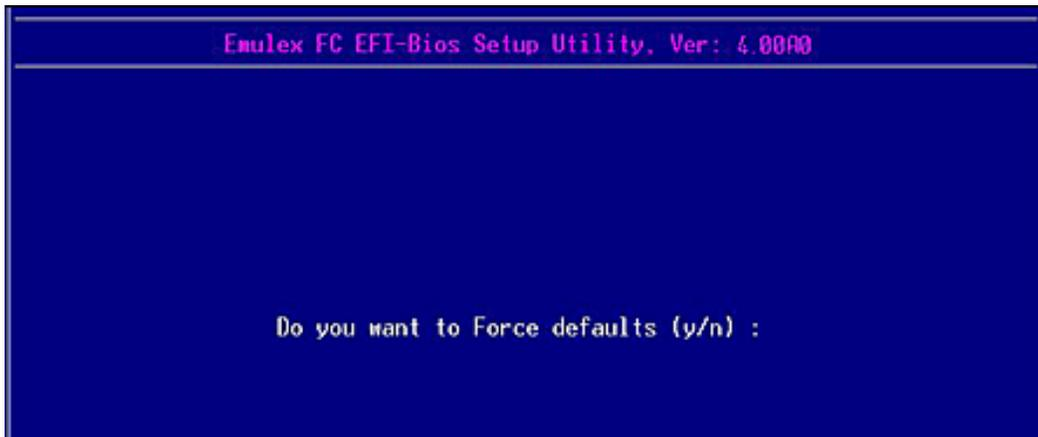

Figure 49: Force Defaults Dialog screen
1. From the EFI-BIOS Setup Utility menu (Figure 26) select **4. Reset to Default Values** and press **<Enter>**. The screen shown in Figure 49 is displayed.